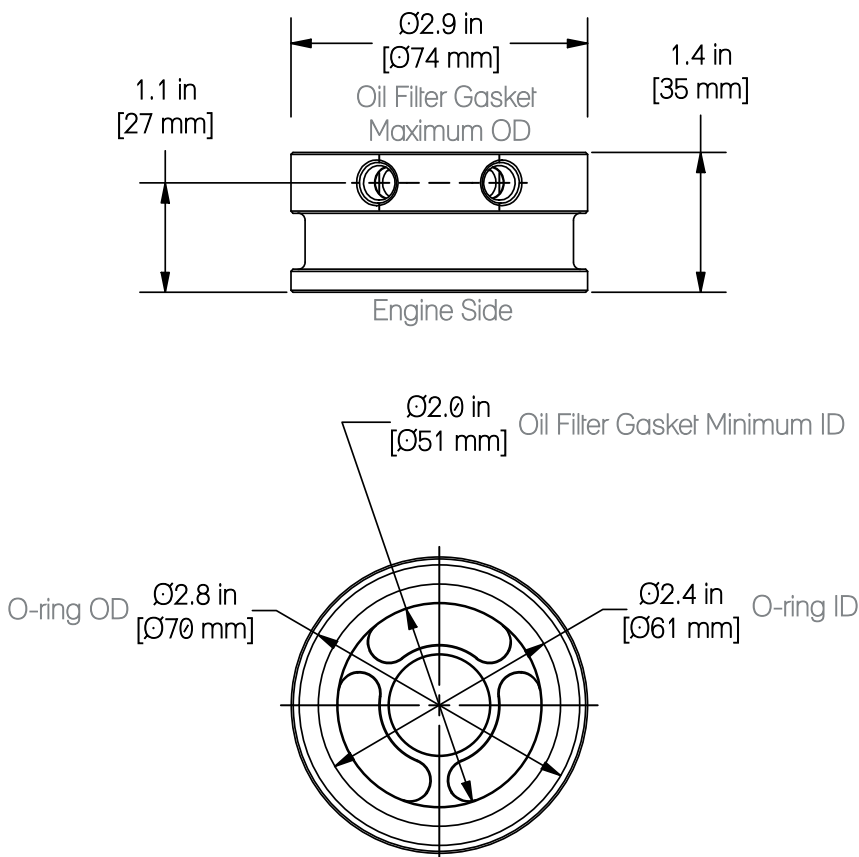

Figure 1 - ENV-117 Dimensions
- All vehicles and craft using canister style oil filters with gaskets matching the gasket dimensions shown in Figure 1.
Dimensions (W x H x D)	Refer to Figure 1
- ⚠ WARNING:** Before installation, verify ENV-117 fits your engine and oil filter dimensions by referencing the dimensions shown Figure 1.